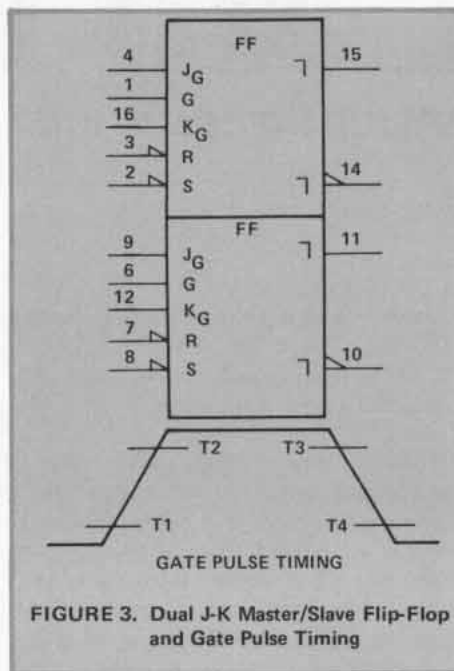

FIGURE 3. Dual J-K Master/Slave Flip-Flop and Gate Pulse Timing
The dual J-K Master/Slave Flip-Flop shown in Figure 3 consists of two independent J-K flip-flops. Inputs to the master section on the left side are controlled by the gate (G) pulse. The gate pulse also controls the state of the coupling transistors (not shown) which connect the master and slave sections.
The sequence of operation with reference to the gate pulse timing signal shown in Figure 3 is as follows: